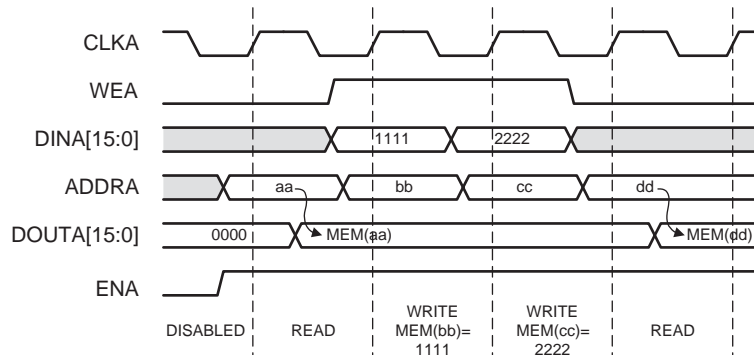

Figure 28: No Change Mode Example
- No Change Mode:** In NO\_CHANGE mode, the output latches remain unchanged during a Write operation. As shown in Figure 28, the data output is still the previous Read data and is unaffected by a Write operation on the same port.